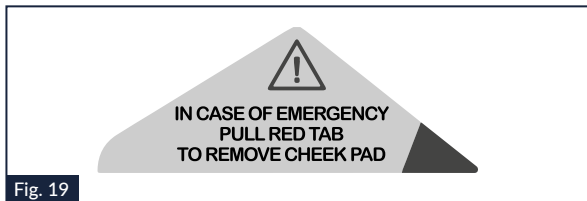

Fig. 19
- Do not take the stickers shown in Fig. 19 off the helmet as they could provide useful information to rescue personnel.